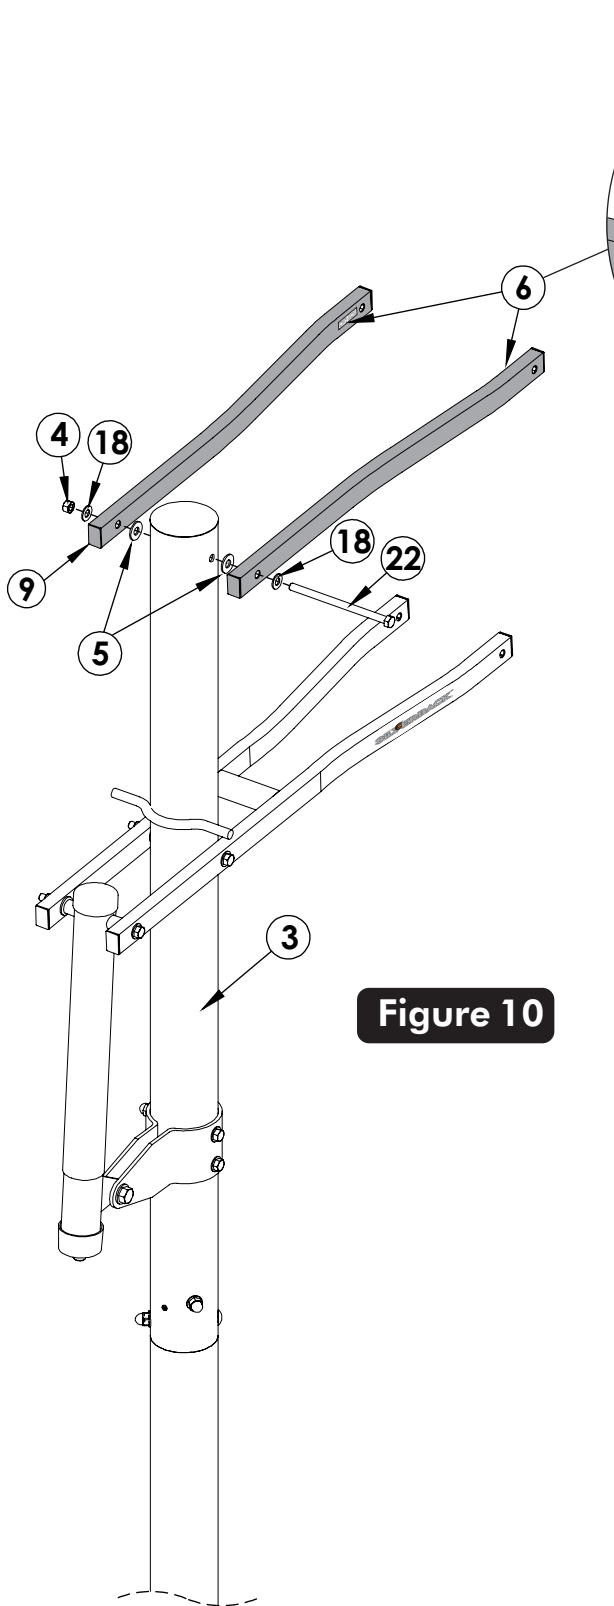

Figure 10
20. Attach upper arms (#6) to top pole (#3), as shown in **Figure 10**, using a bolt (#22), two flat washers (#18), two plastic washers (#5) and one lock nut (#4).